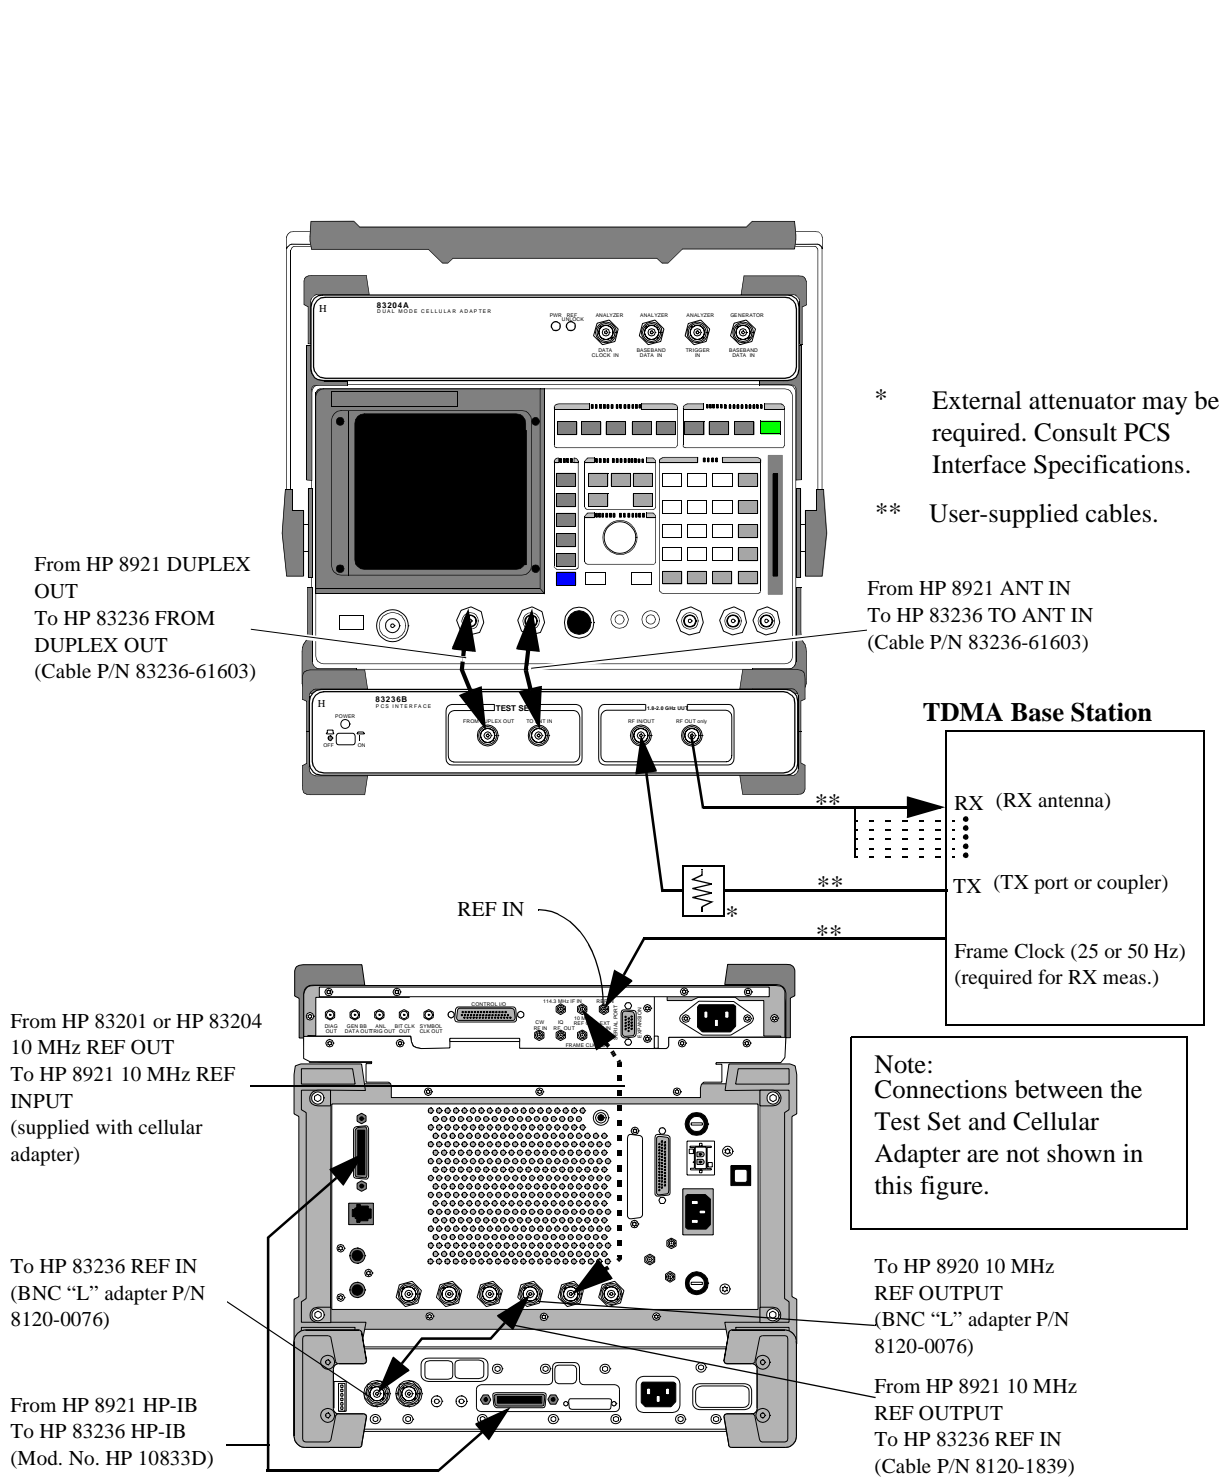

Figure 18 Connection Diagram for the HP 8921 Test Configuration (TDMA Base Station Tests with Frame Clock)
- TDMA base station with frame clock: See figure 18.